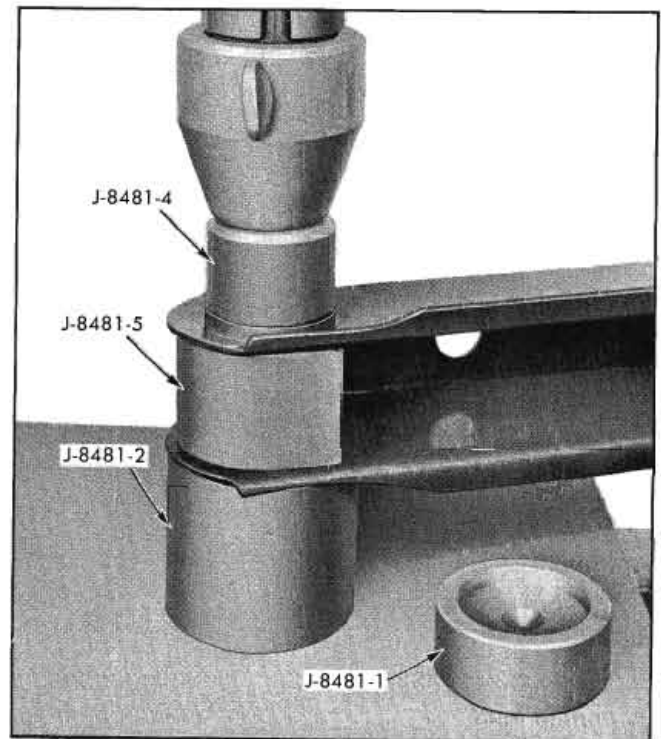

Fig. 3-34 Removing Rear Upper and Lower Control Arm Bushing
a. Press out bushing with J-8481-4 as shown in Fig. 3-34.